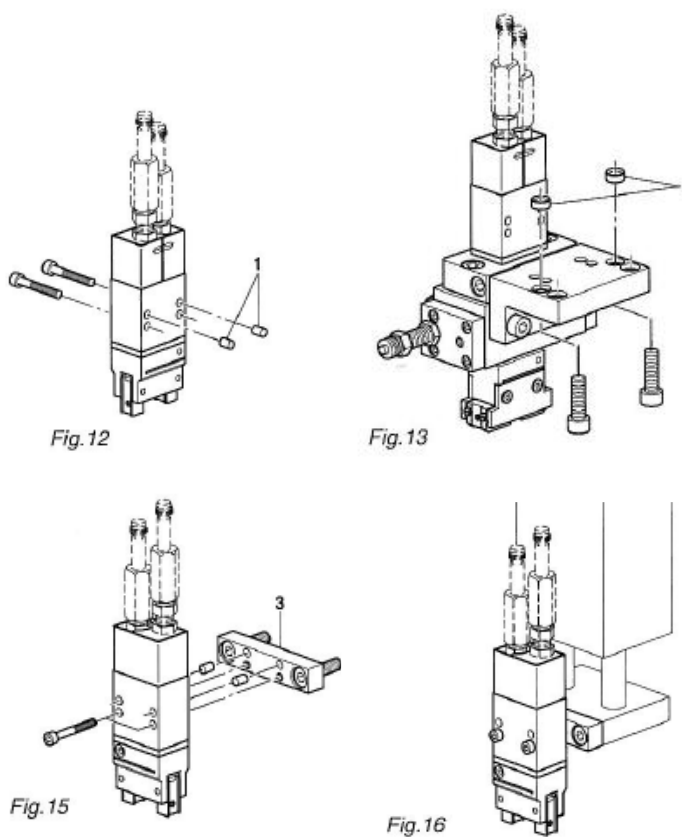

Fig. 10 Mounting options GMQ 12 & GMQ 12 / RM 12
The GMQ 12 module can be connected to a linear module by attaching a connector (3) (Fig. 10, Fig. 15-16).